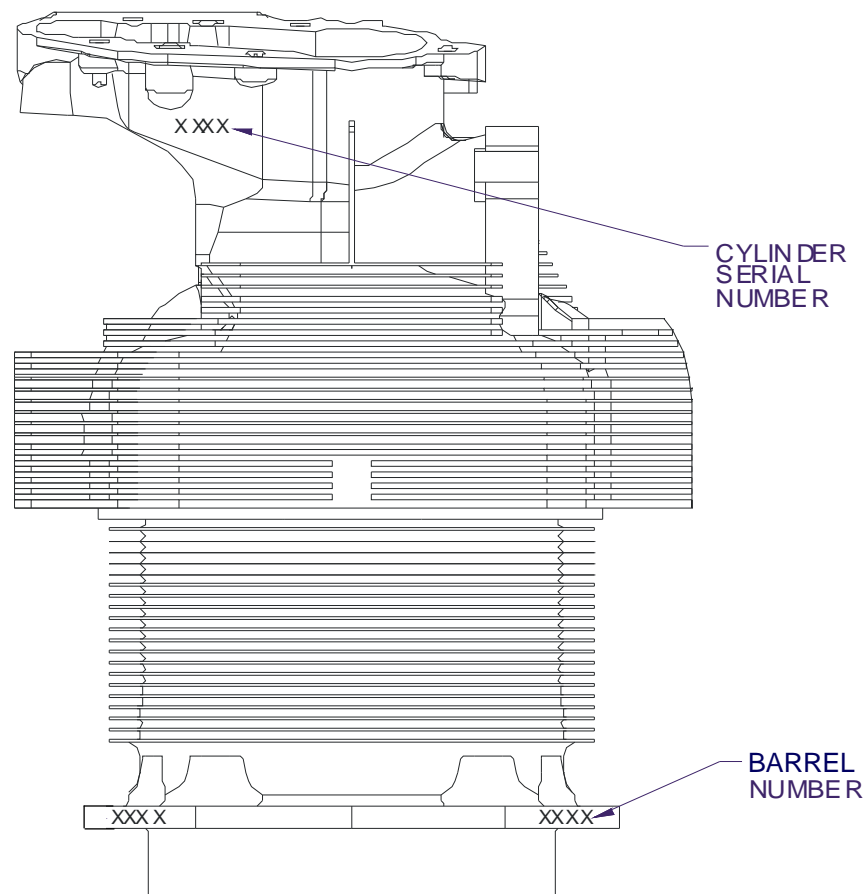

Figure 1: Location of markings for cylinder assemblies affected by this Service Bulletin
3. With a mirror confirm and record the serial numbers of the cylinder assembly. The cylinder serial number is located on the side of the intake port as shown in Figure 1 below.